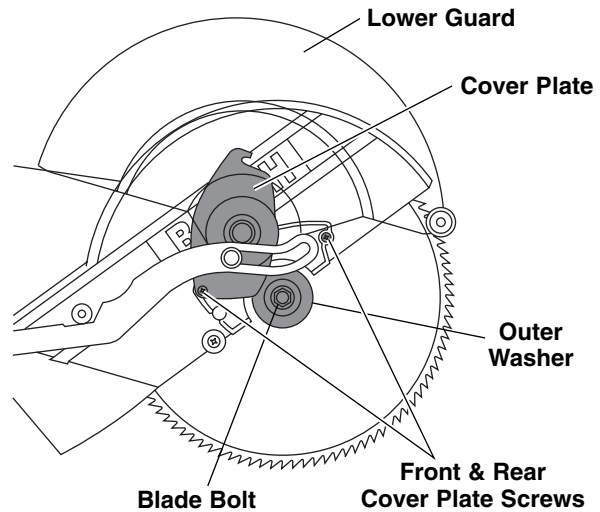

Figure 1. Blade Removal
3. Lift the lower guard and the cover plate so the blade bolt is exposed (Figure 1).